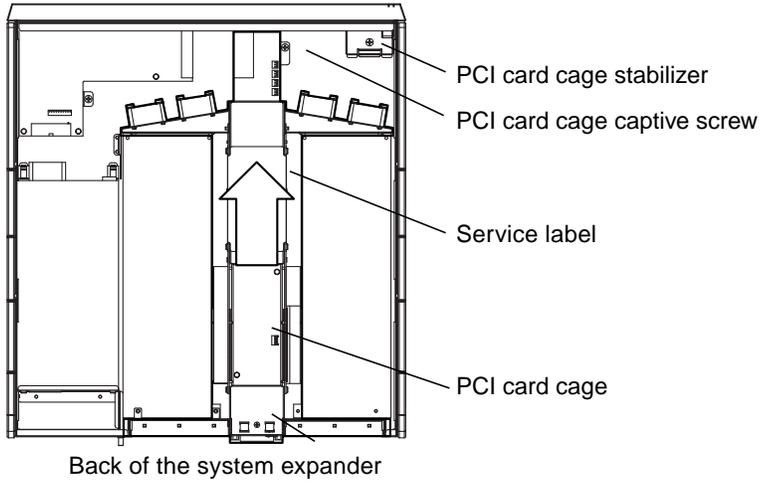

FIGURE 4-3 Removing the PCI Card Cage
3. Loosen the PCI card cage captive screw shown in FIGURE 4-3.